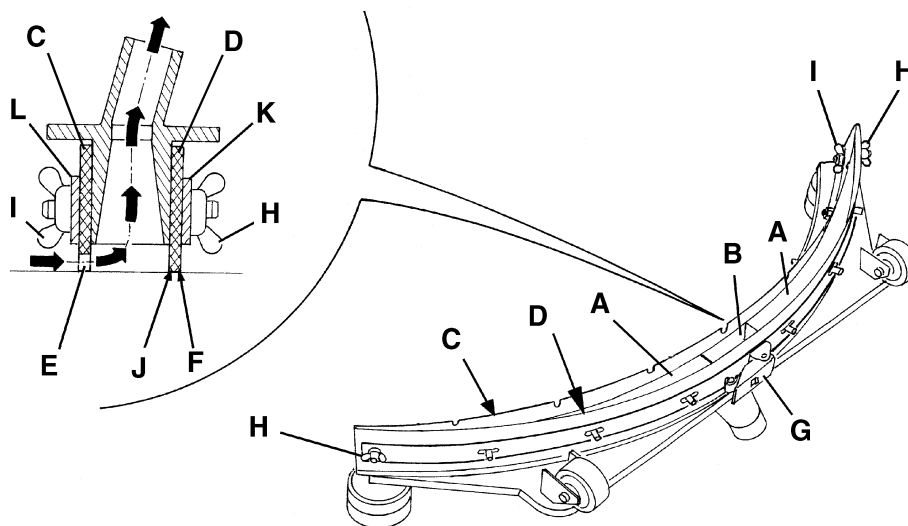
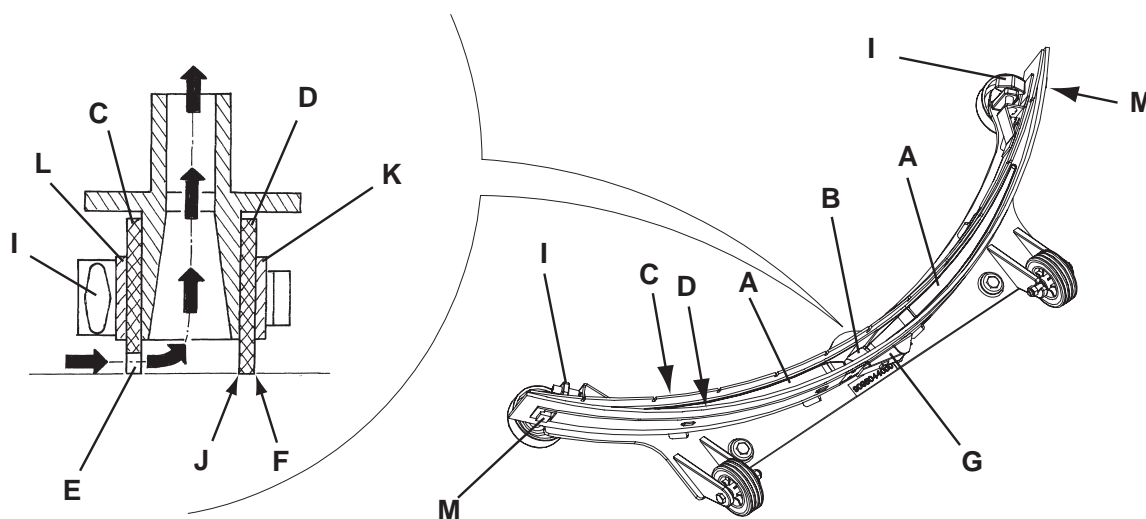

Figure 5
Figure 6
3. Lower the squeegee (25) with the lever (10).
4. Loosen the handwheels (26) and remove the squeegee (25).
5. Disconnect the vacuum hose (15) from the squeegee.
6. Clean the steel squeegee (Fig. 5) or the aluminium squeegee (Fig. 6). Clean the compartments (A, Fig. 5 or 6) and the hole (B) especially. Check the front blade (C) and the rear blade (D) for integrity, cuts and tears; otherwise replace them (see the procedure in the following paragraph).
1. Clean the steel squeegee (Fig. 5) or the aluminium squeegee (Fig. 6), according to the procedure shown in the previous paragraph.
2. Check that the edges (E, Fig. 5 or 6) of the front blade (C) and the edges (F) of the rear blade (D) lay down on the same level, along their length; otherwise adjust their height according to the following procedure:
- Release the tie rod (G, Fig. 5 or 6) and loosen the wing nuts (H, Fig. 5), or disengage the retainers (M, Fig. 6) and adjust the rear blade (D, Fig. 5 or 6), then tighten the wing nuts, or engage the retainers, and then engage the tie rod.
- Loosen the handwheels (I) and adjust the front blade (C, Fig. 5 or 6); then tighten the handwheels.
3. Check the front blade (C, Fig. 5 or 6) and rear blade (D) for integrity, cuts and tears; if necessary replace them according to the following procedure. Check that the front corner (J) of the rear blade is not worn; otherwise, overturn the blade to replace the worn corner with an integral one. If the other corners are worn too, replace the blade according to the following procedure:
- Release the tie rod (G), remove the wing nuts (H) or disengage the retainers (M), remove the retaining strip (K), then replace/overturn the rear blade (D).